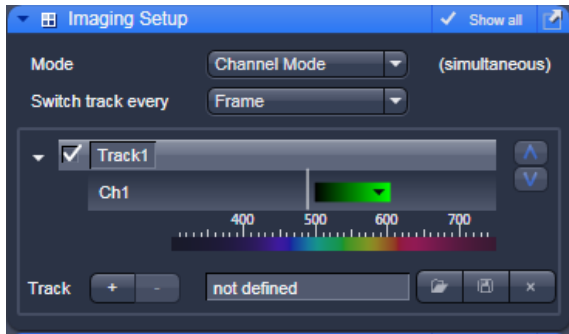
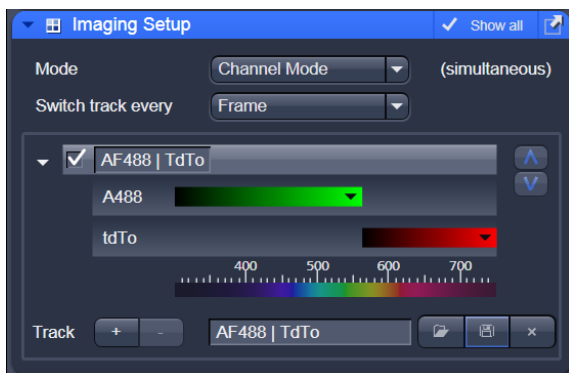
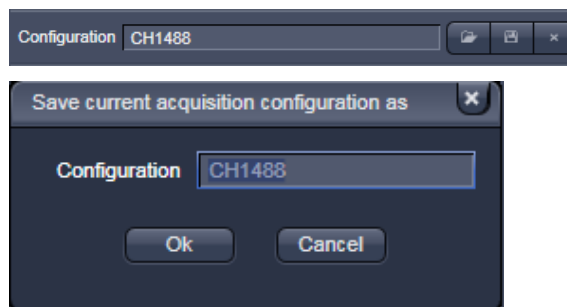

Fig. 17 Imaging Setup tool for a single track (LSM)
Fig. 18 Detection Bands & Laser Lines display
Fig. 19 Track Configurations window
- Select **Channel Mode** if necessary (Fig. 17).
- In the **Imaging Setup** tool the Detection Bands & Laser Lines are also displayed in a spectral panel (Fig. 18) to visualize the activated laser lines for excitation (vertical lines) and activated detection channels (colored horizontal bars).
- For storing a new configuration click  and enter a desired name in the box (Fig. 19). Press **OK** to confirm.
The following functions are available in the **List of Tracks** panel in the **Imaging Setup** tool (Fig. 17, Fig. 18 and Fig. 19).